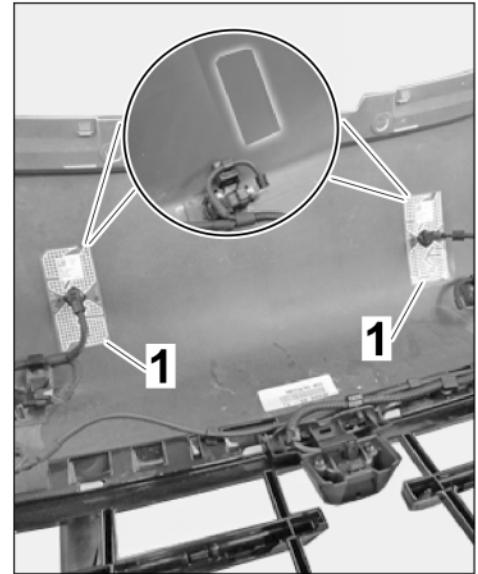

Figure 27
3.6 Install UMTS stick-on antenna (⇒ *Figure 27*).